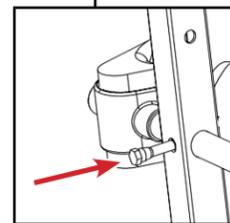

Figure 12B
- Slip the other foam ankle clamp (rounded corners down) onto the rear bar and push the black rubber plug (F5-1056) into the bar (Figure 12B).